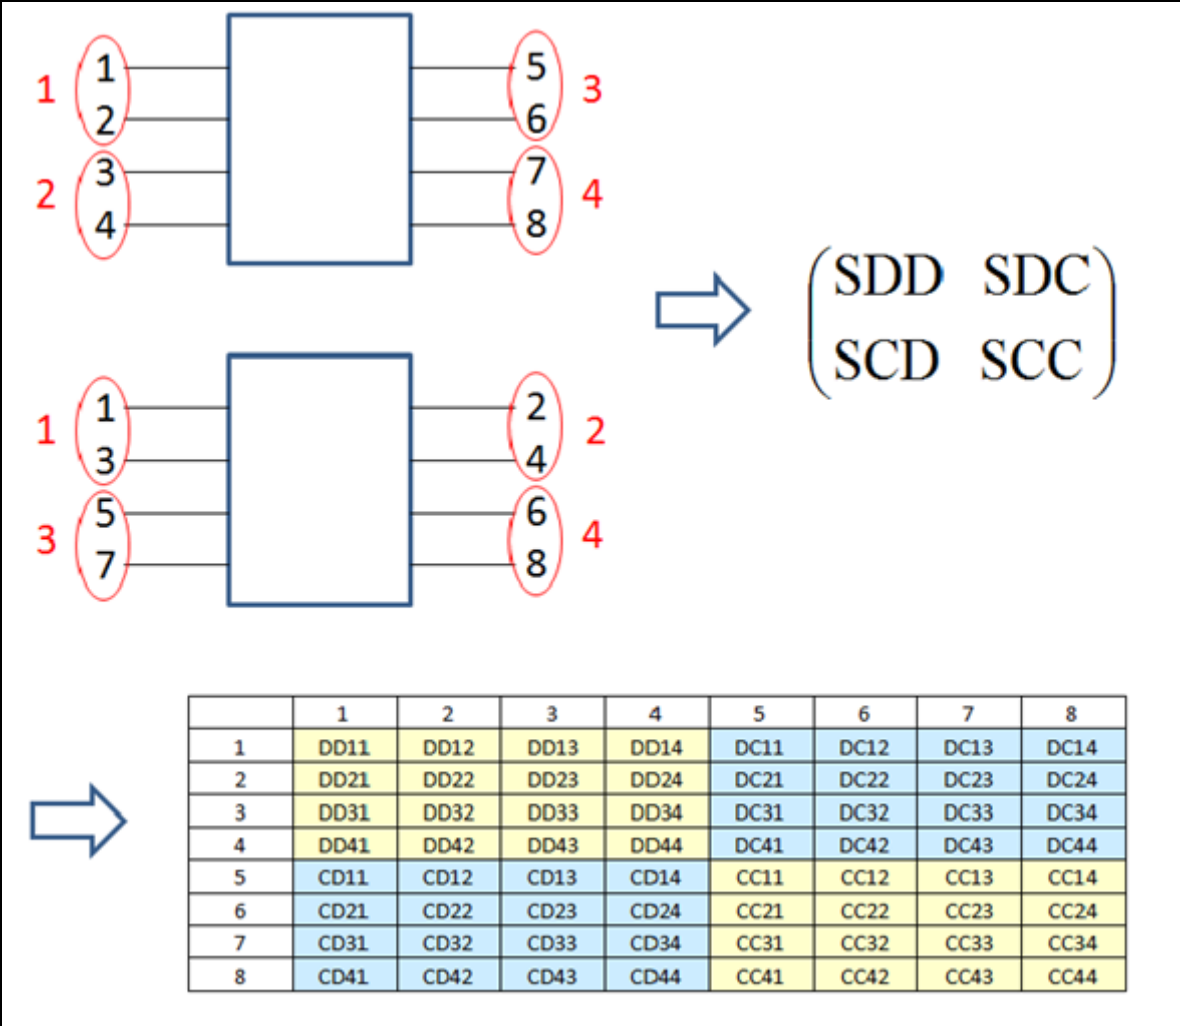

Figure 18
The user has the option of applying TDR/TDT to single-ended, differential-mode or common-mode signals. Two types of port sequence are supported for differential- or common-mode signals: (1) 1 to N as inputs and N+1 to 2N as outputs (which is preferred) and (2) 1, 3, ..., 2N-1 as inputs and 2, 4, ..., 2N as outputs. See Figure 18 for details about how the differential pairs are numbered.
As shown in Figure 18, the output mixed-mode matrix always assumes SDD at the upper left-hand corner and SCC at the lower right-hand corner. Regardless of the single-ended port sequence, the differential pairs are assigned to the input ports first.
2. To plot mixed-mode S, Y, or Z parameters, the user can enter the differential pair indices with preceding "d" or "c" (for example: "dd 3 4", "dc 3 4", "cd 3 4", "cc 3 4", "d3 d4", "d3 c4", "c3 d4", or "c3 c4", etc.). The program will figure out the correct mixed modes as long as the single-ended ports are in one of two ordering sequences: (1) Ports 1 to N are inputs and Ports N+1 to 2*N are outputs, or (2) Ports 1, 3, 5, ... are inputs and Ports 2, 4, 6, ... are outputs. See Figure 18 for the mixed-mode indices after conversion.
6. Another alternate (though unnecessary) way to plot mixed-mode response is to create a Touchstone file through “Single to Mixed-Mode” utility and plot the corresponding indices. (For example, the user can enter the indices of “2 6” for the mixed-mode file of Figure 18 to plot SDC22.) To be consistent throughout ADK, it’s a good practice to number the input ports from 1 to N and the output ports from N+1 to 2*N. The mixed-mode matrix always assumes SDD at the upper left-hand corner and SCC at the lower right-hand corner: